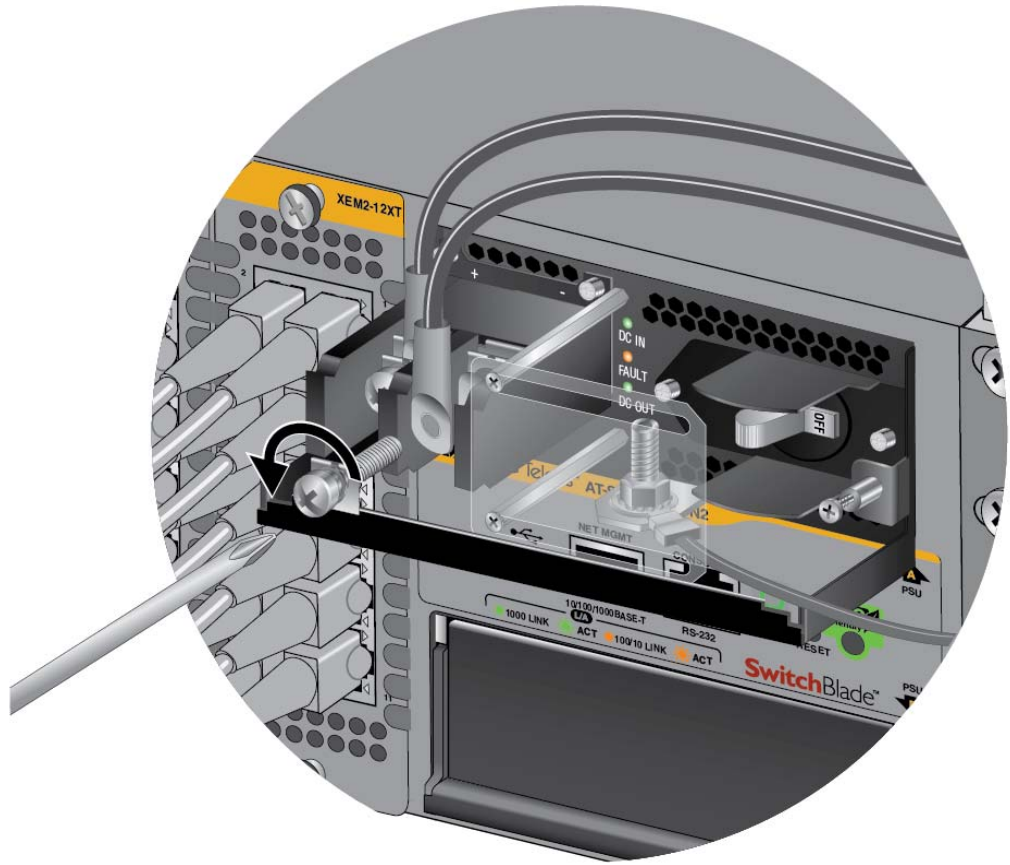

Figure 109. Removing the Negative Lead Wire
5. Use a #3 screwdriver to remove the negative (-) lead wire from the terminal block. The negative lead wire is on the right. Refer to Figure 109 on page 151.